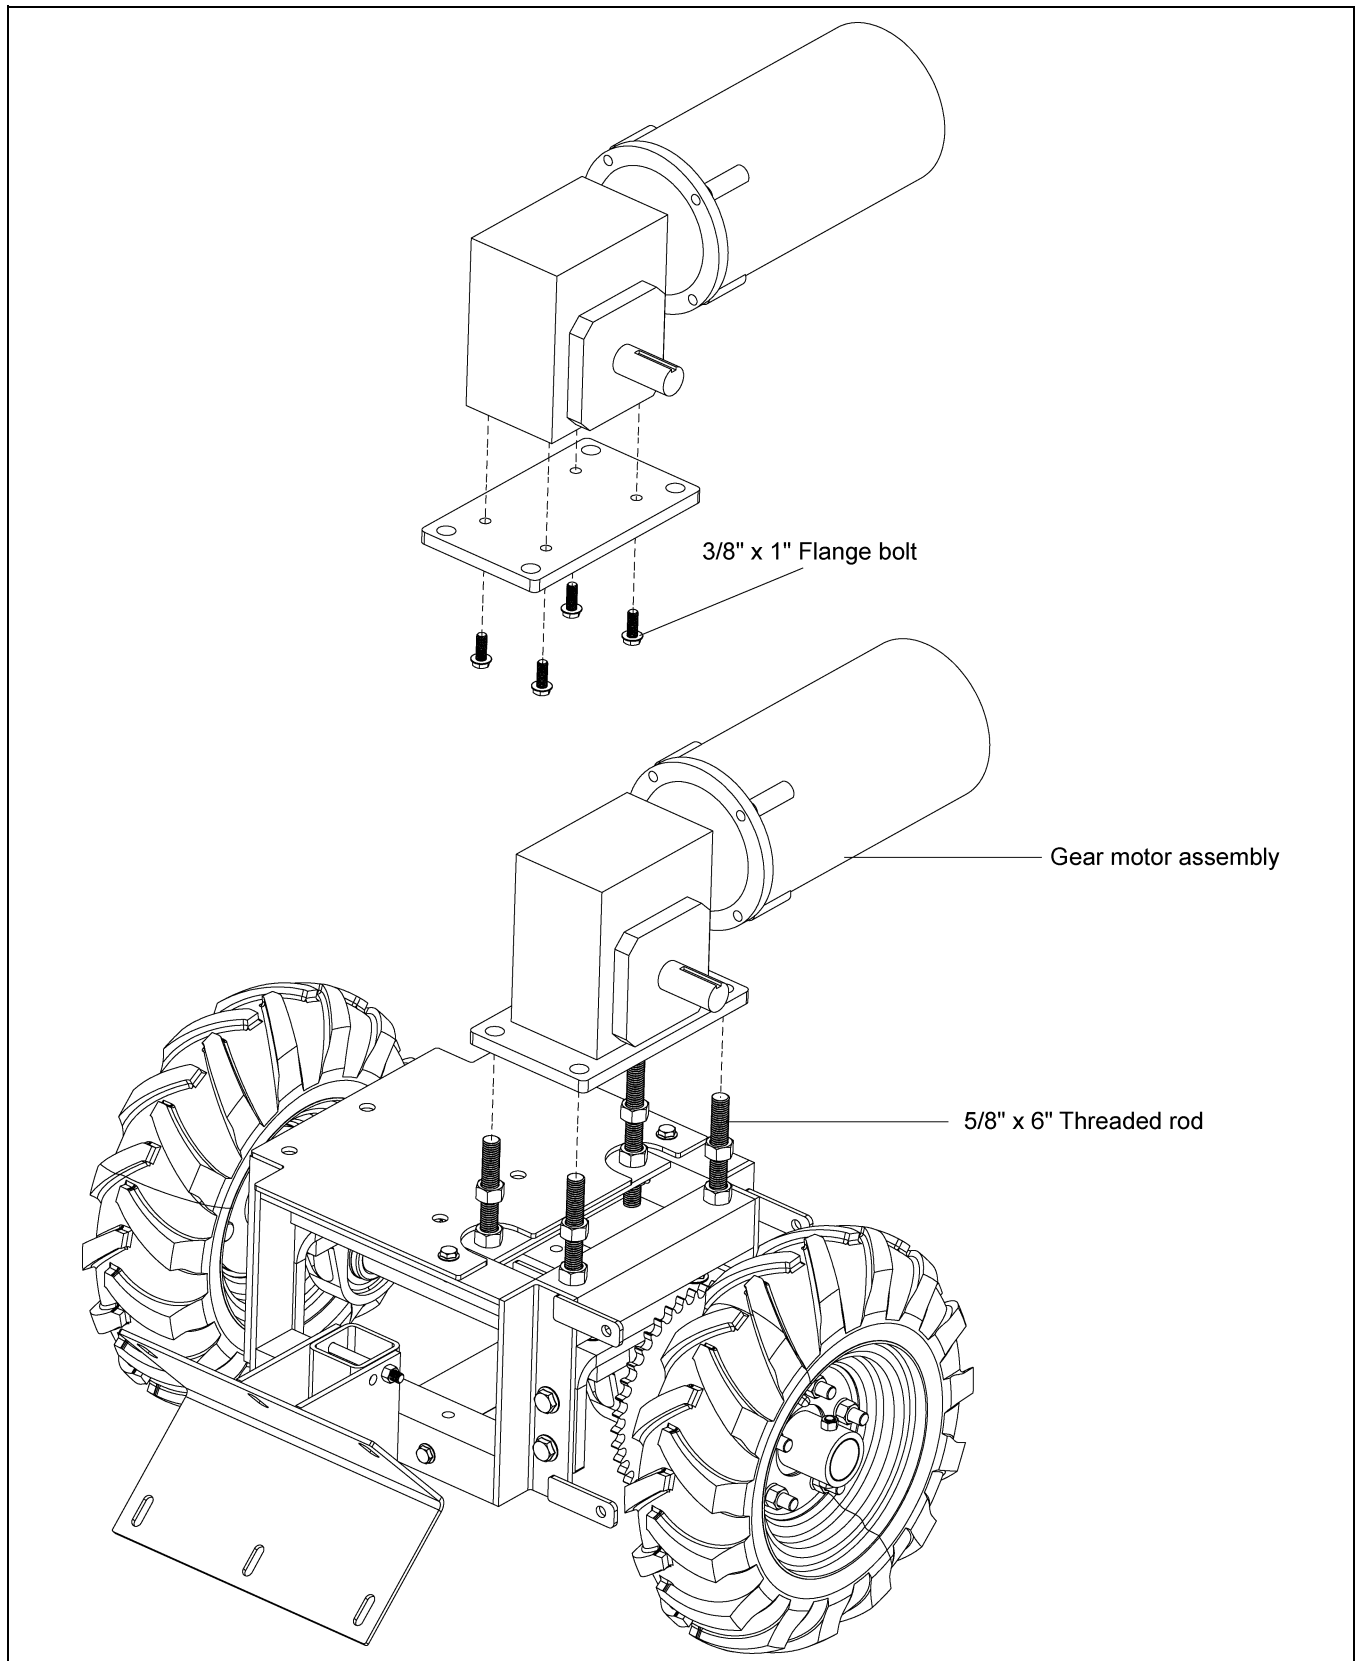

Figure 4G
13. Mount the drive assembly to the gearbox plate using four (4) 3/8"-16 x 1" flange bolts. Place the gearbox plate and motor assembly over the threaded rods, resting on the hex nuts. (See Figure 4G.)